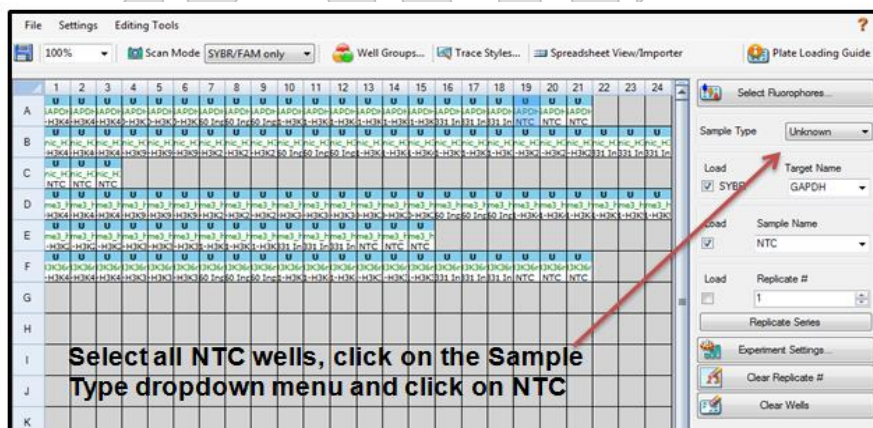

Figure 31: Defining no template control wells
5.10. Select the No Template Control (NTC) wells using the same method described in Step 4.9. Click on the Sample Type dropdown menu and select NTC as described in Figure 31.